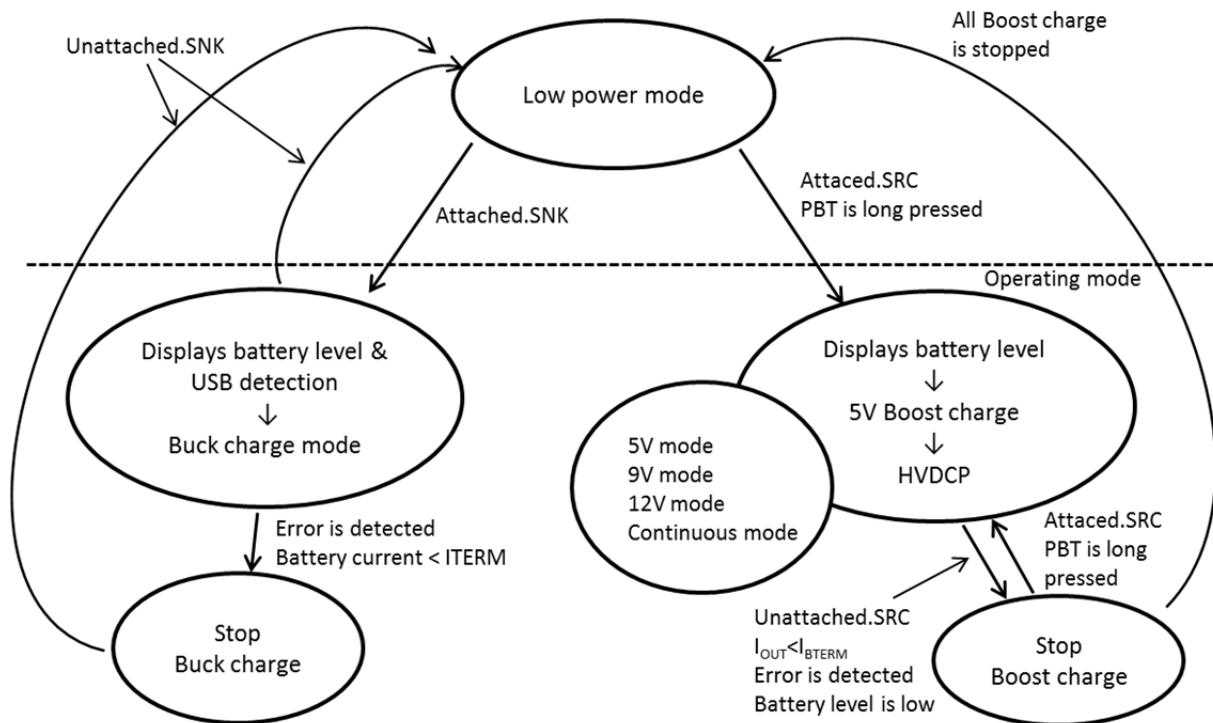

Figure 10: FW05 (DRP) state diagram
In Figure 10: FW05 DRP state diagram. Low power mode will transition into the Operating mode under following conditions of: a) Port control IC detects DRP is attached, or b) Connection to Type-A (2) port is detected by V_{B3DET}, or c) Push button is pressed for long.